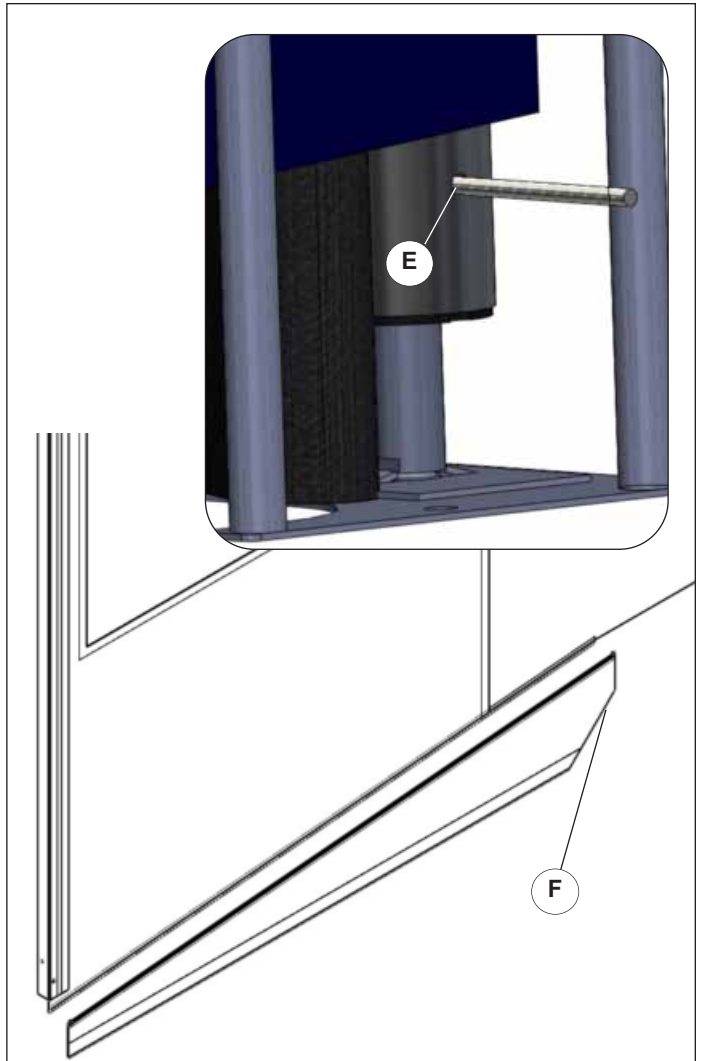

Figure 12.3
2. Ultra Seal (B) standard on Pharma and optional on non Pharma.
3. Pre-installed curtain back seal (C).
4. Pre-installed curtain front seal (D).
5. Only if optional removable seal was ordered. Unwind curtain from the tube far enough to expose the aluminum tube at the bottom with the hole in it, **Figure 12.3**.
6. Once exposed, place a bar (E) in the hole and rest up against the corner of the sideframe.
7. Zipper (F) start point is the back of the sweep.
8. Using the zipper, attach (G) bottom seal.
9. If seal is too long, trim below sew line (H).